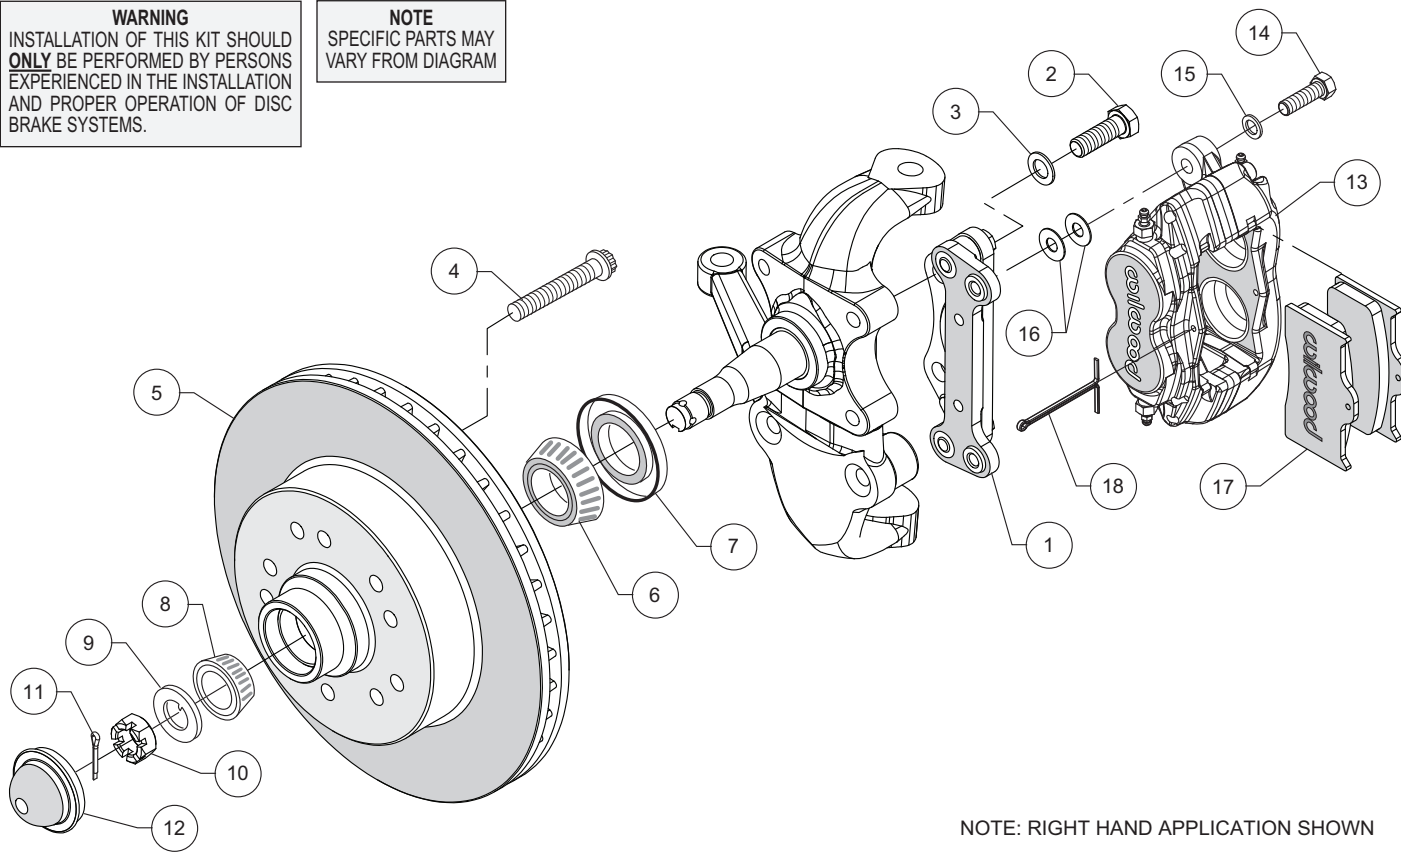
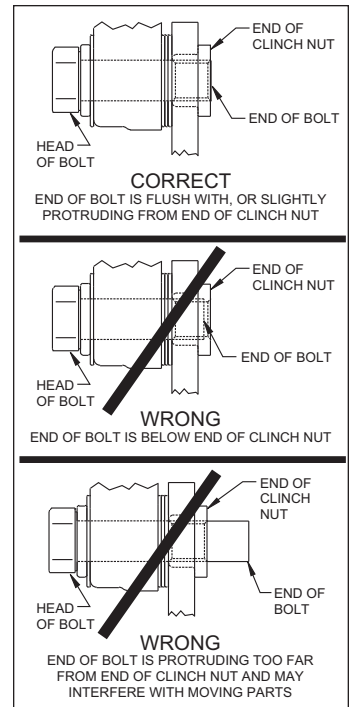

Figure 1. Typical Installation Configuration
Figure 3. Clinch Nut Engagement Diagram
**Assembly Instructions** (numbers in parenthesis refer to the parts list and Figure 1 on the preceding pages): **CAUTION:** All mounting bolts must fully engage clinch nuts. Be sure to check that all bolts are either flush or protruding through flanged side of clinch nut after shimming, Figure 3.
- Orient the bracket as shown in Figure 1, and Photo 1. Install using bolts (2) and washers (3). Ensure that the flanged heads of the clinch nuts in the bracket are facing outboard, Photo 1. Temporarily tighten the mounting bolts. **NOTE:** The bracket must fit squarely against the mounting points on the spindle. Inspect for interference from casting irregularities, machining ridges, burrs, etc. Remove bolts one at a time, apply red Loctite® 271 to threads, and torque to 90 ft-lb.
- NOTE:** Please reference the caution statement at the beginning of the assembly instructions. Mount the caliper (13) onto the caliper mounting bracket (1) using bolts (14) and washers (15), as shown in Figure 1. Initially place two .035" thick shims (16) on each bolt between the caliper and the bracket, Photo 8. Temporarily tighten the mounting bolts and view the rotor (5) through the top opening of the caliper. The rotor should be centered in the caliper (13), Photo 9. If not, adjust by adding or subtracting shims between the bracket and the caliper. Always use the same amount of shims on each of the two mounting bolts. **NOTE:** The end of each bolt must be flush with or slightly protruding from the head of the clinch nut, as shown in Figure 3. If necessary place spare shims (16) between washer (15) and